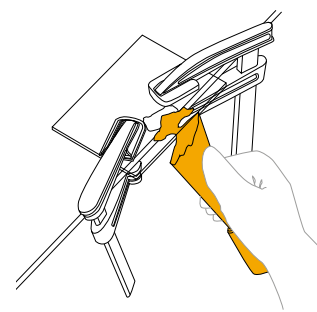

fig. 7
- push the prepared bi-component compound with a spatula (fig. 7);